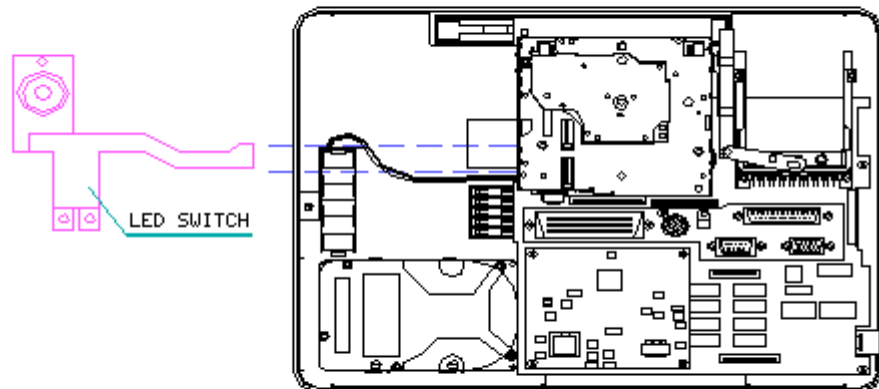

Figure 3-46. Disconnecting the LED/Switch Cable
7. Disconnect the LED/Switch Cable from its ZIF connector on the system board and remove the cable (Figure 3-46).